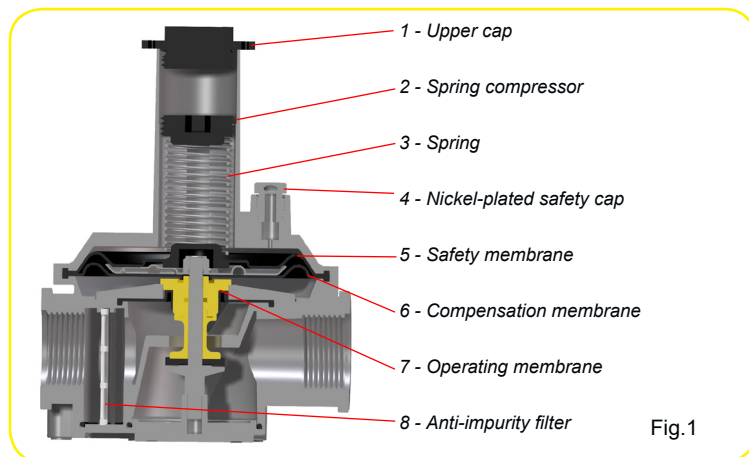

Fig.1
Unscrew the upper cap to gain access to the spring compressor (1) (Fig.1). The outlet pressure is regulated by rotating the spring compressor (2) (Fig.1). Using a 10mm Allen key, turn the spring compressor (2) in a clockwise direction to increase the pressure and in an anticlockwise direction to reduce the pressure. After making the adjustment, replace the upper cap (1).